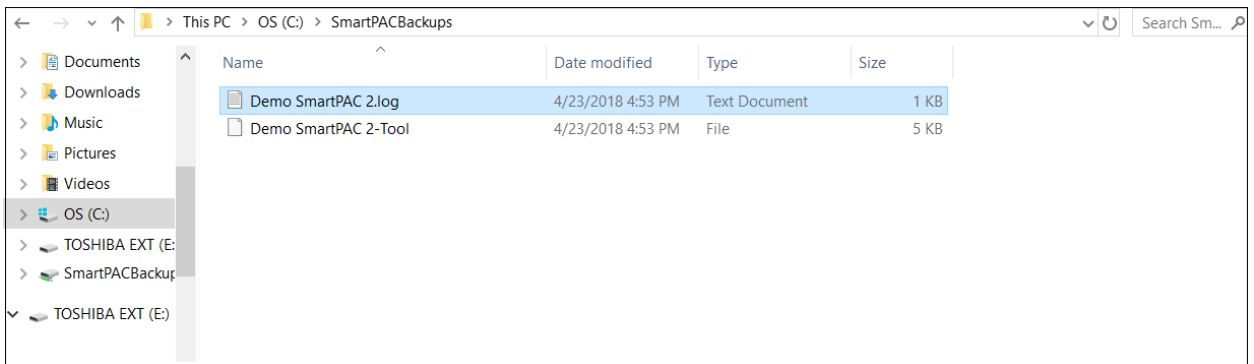

Figure 3 – Tool Data backup files
- Browse to the Tool Storage Path folder on your laptop computer. This is the folder where the Tool Data backup files reside. The default folder name is Wintriss, however you may have named it something more specific. For example, SmartPACBackups (See example in Figure 3 below).
- Copy or drag these files on to a USB disk. Note, the file names in figure 3 are examples. Your files names will differ according to what you specified for a Press Name in SBR.